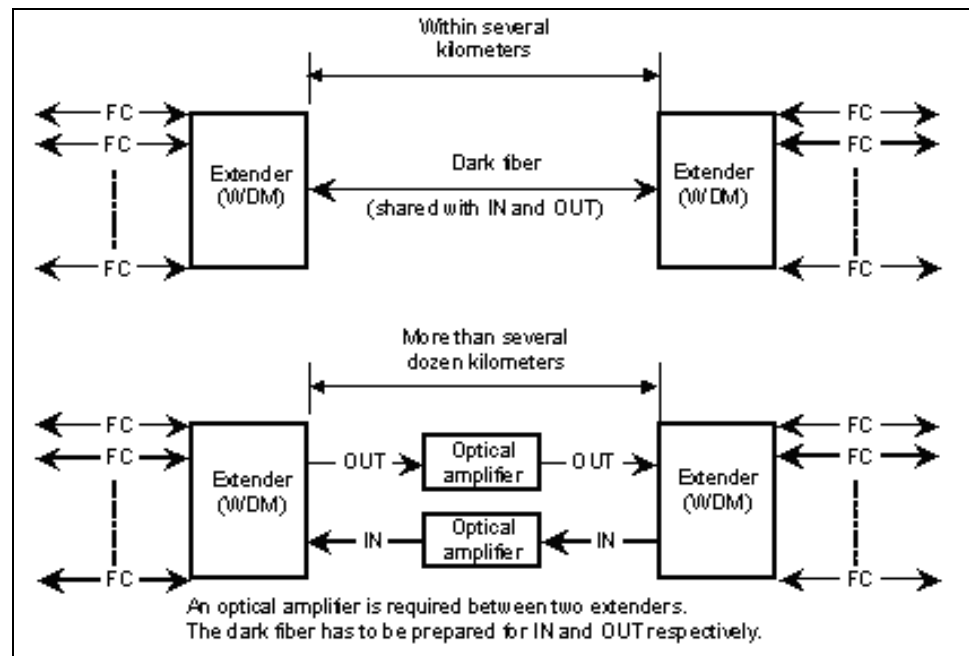

Figure F-2: Dark Fiber with WDM
- For long distances (more than several dozen kilometers), an optical amplifier is required to amplify the wavelength between two extenders to prevent attenuation through a fiber. Therefore, dark fibers are required to prepare for IN and OUT respectively. This is illustrated in Figure F-2.